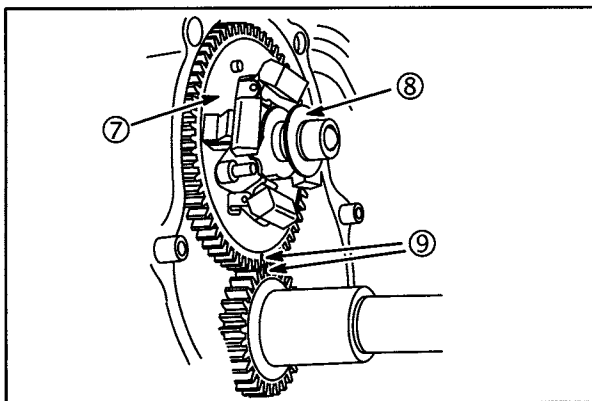

Fig. 26
1. Remove governor spool (8) from camshaft (7), **Fig. 26**. Discard gasket and O-ring.
2. Rotate crankshaft and camshaft until timing marks (9) align. Remove camshaft.